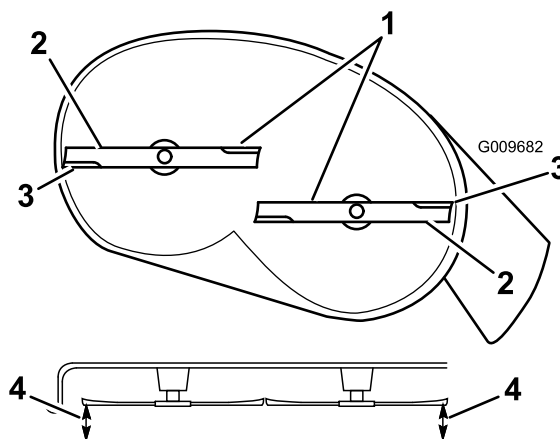

Figure 48
- Carefully rotate the blades so that they are all side to side (Figure 48).
- Measure between the outside cutting edges and the flat surface (Figure 48). If both measurements are not within 3/16 inch (5 mm), an adjustment is required; continue with this procedure.